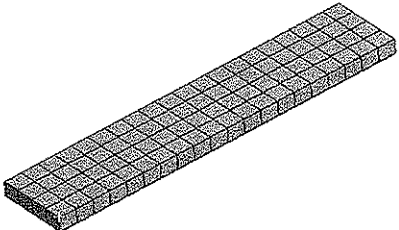

Figure 9-9 Mesh generated with default mesh controls
- 4. Choose the **Generate Mesh** tool from the **Mesh** drop-down in the **Mesh** contextual toolbar; the mesh is generated, as shown in Figure 9-9.
In Figure 9-9, notice that there are 20 elements laid along the length and 4 elements laid along the width of the component. As the component is 250 mm long and 50 mm wide, the size of the elements is 12.5 mm hexahedrals.